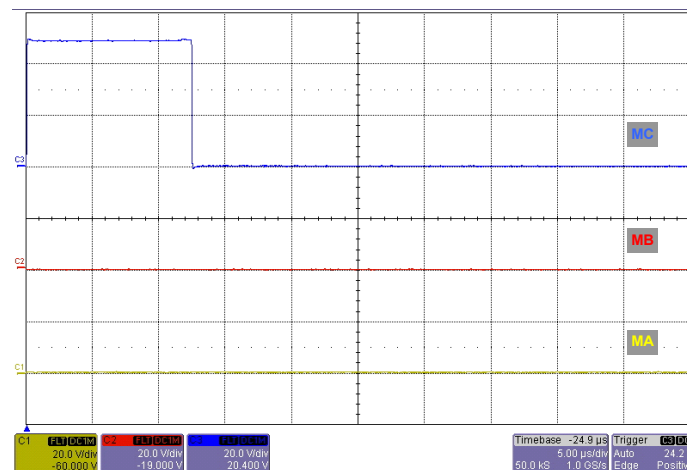

Figure 7. Waveforms on MA, MB, and MC with HC Grounded
2. While the **HC** input is grounded, observe the following waveforms on the MA, MB, and MC terminals. As the example in Figure 7 shows, there should be no switching disturbances on MB and MA.